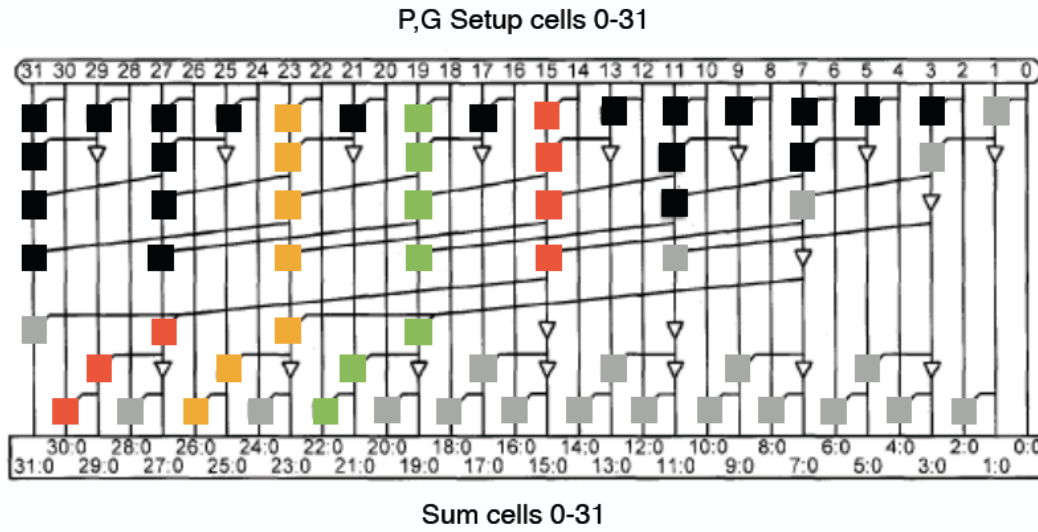

Figure 14: The complete 32-bit adder with one path colored for each of the three outputs that has the longest path through the tree: 30, 26 and 22
- d) The longest path in the complete adder in 13 has seven PG cells, that is the delay through the tree is 7 unit delays. It is three outputs that have this worst-case delay: 30, 26 and 22. For one output there can be multiple paths of the same length. In Fig 14 one path for each of these three outputs is colored. With a different solution for task c) the solution to task d) may be different.